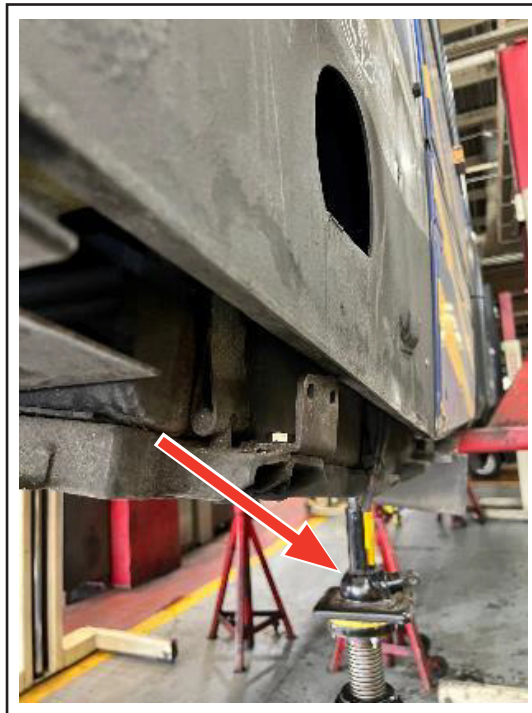

Figure 1 - Mounting Vertical Jack
- 1.5. Raise the vehicle with the help of vertical jack (see figure 1).